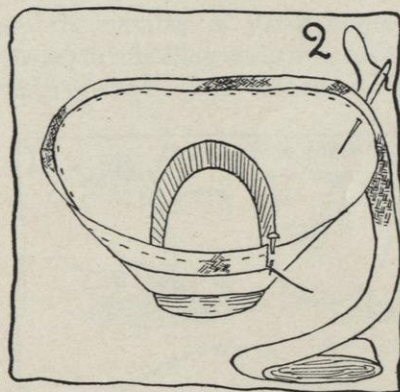

FIG. 2.
- (1) Start as shown in Section 3 a (1), page 278, but let the first row extend $\frac{1}{8}$ inch beyond the edgewire (see Figure 2).
- (2) Do not baste first row, but sew it right through the foundation brim at the edge (see Figure 2).
- (3) Continue as shown in Sections 3 a (3) through Sections 3 j, (page 278 and above), but sew right through the frame as you go.